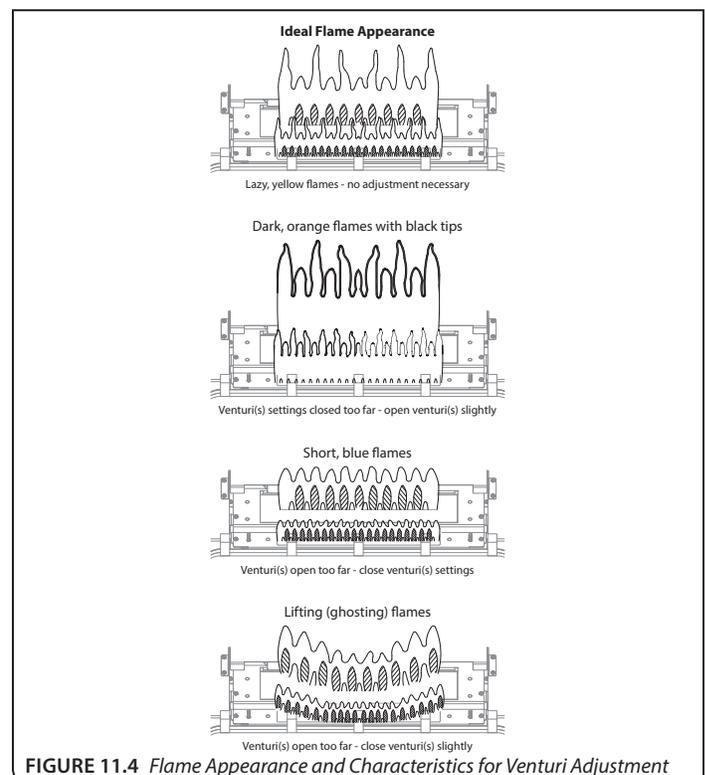

FIGURE 11.4 Flame Appearance and Characteristics for Venturi Adjustment
3. Loosen the screws on the venturi brackets and adjust the venturi as necessary. See flame adjustment guidelines in **FIGURE 11.4**. Re-tighten screws when finished.